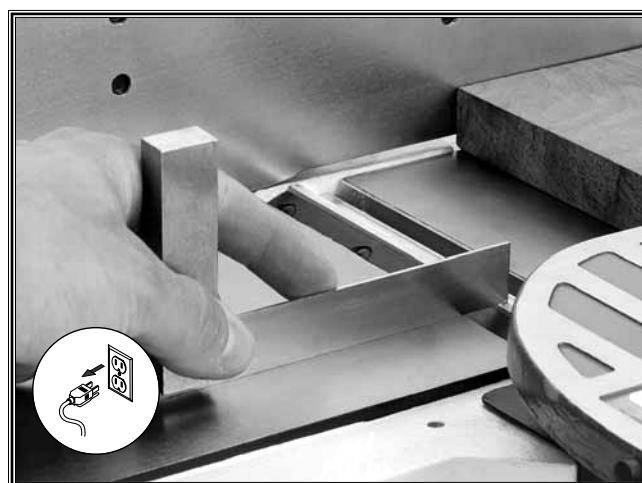

Figure 39. Checking the blade height.
7. At both ends of the cutterhead, the straightedge must make contact with the blade (**Figure 39**). *Watch and make sure the straightedge is not lifted from the outfeed table surface when contact is made with the cutterhead blades.*